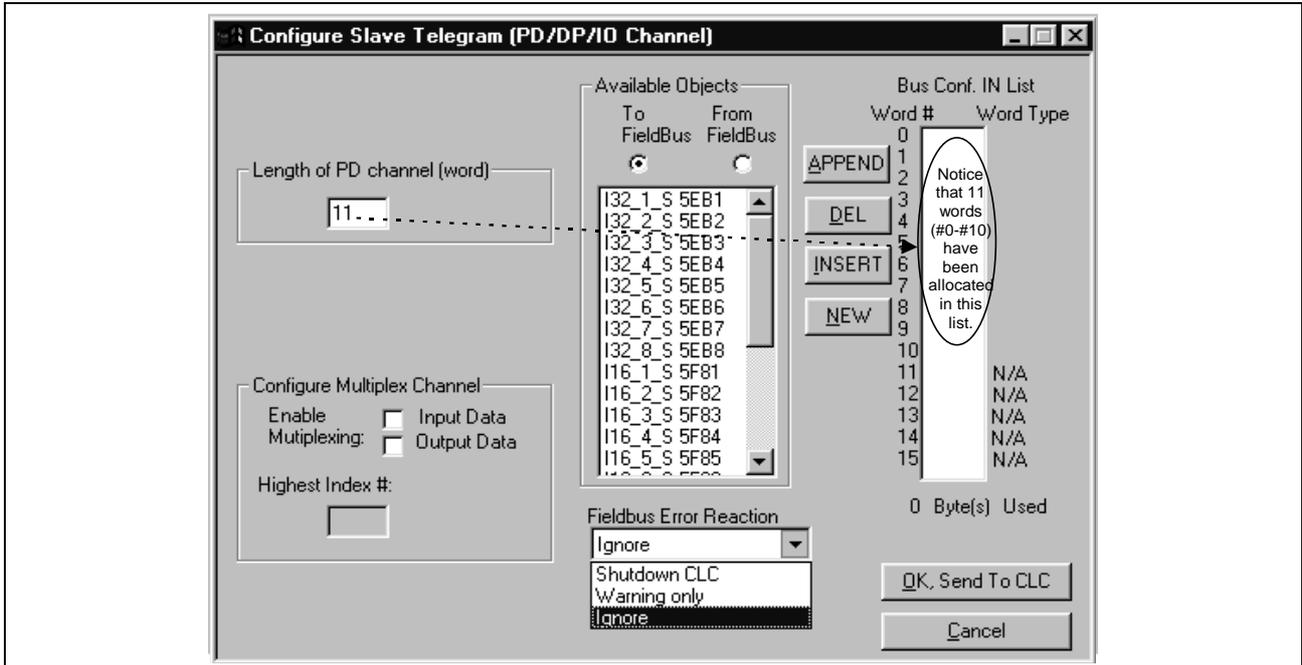

Figure 2-3: Interbus Configuration Screen
- Click the button labeled "Define/Config Slave Objects." The Fieldbus Mapper will try to detect any configuration data from the CLC-D. If you are configuring a new list, click on the "NEW" button to clear any current data in the selected list. The Interbus Configuration Screen is pictured in **Figure 2-3: Interbus Configuration Screen**.